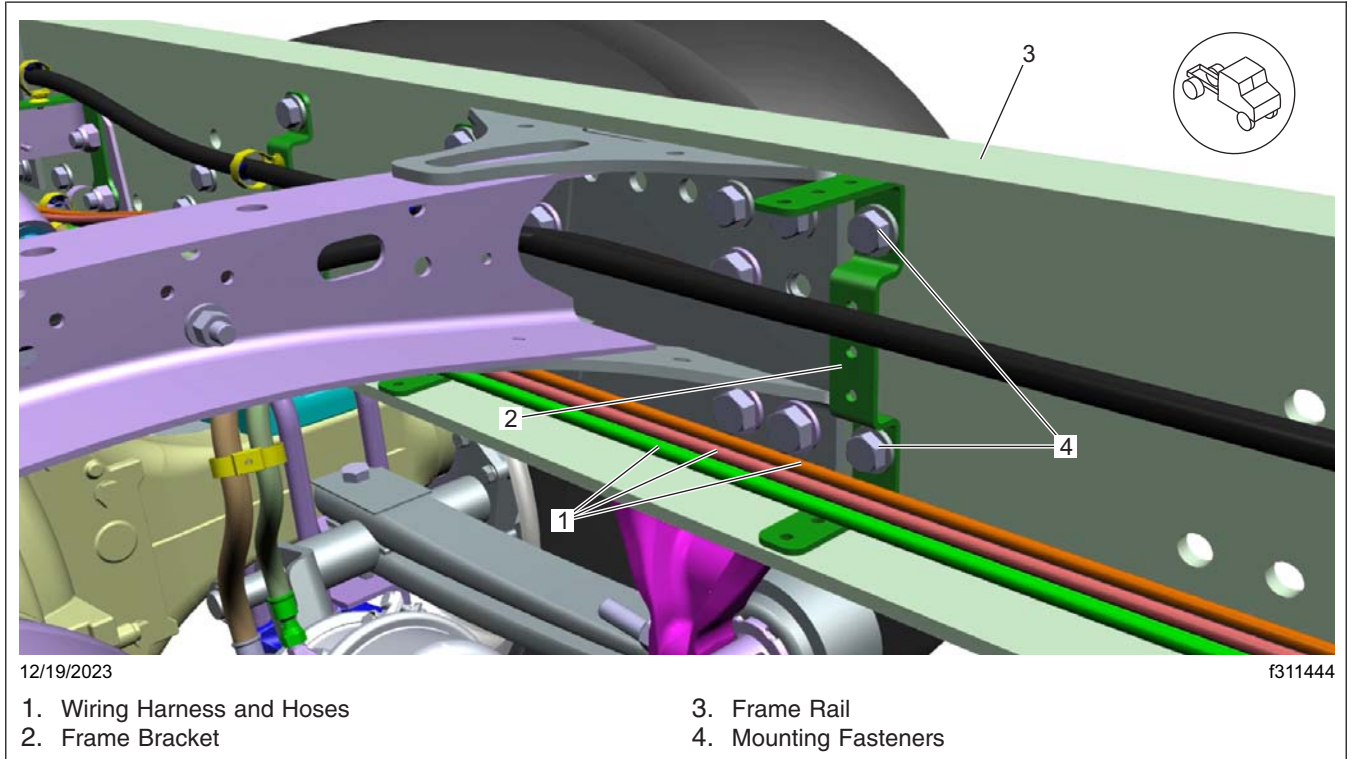
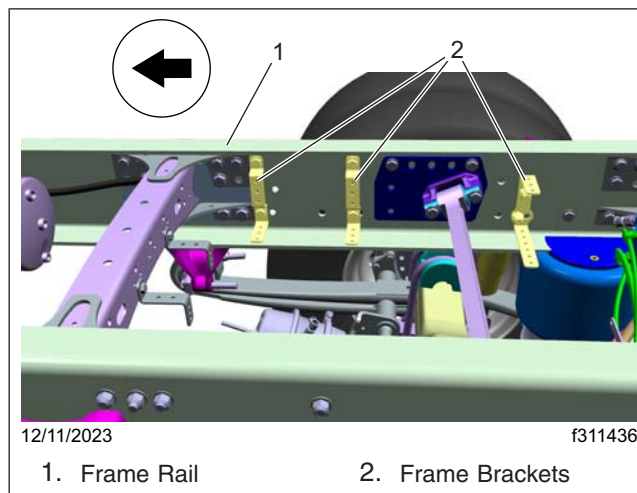

Fig. 2, Left-Hand Side Frame Brackets
Fig. 3, Right-Hand Side Frame Brackets
6. Remove the mounting fasteners that attach the brackets to the frame rails, then remove the brackets. See Fig. 2 and Fig. 3.